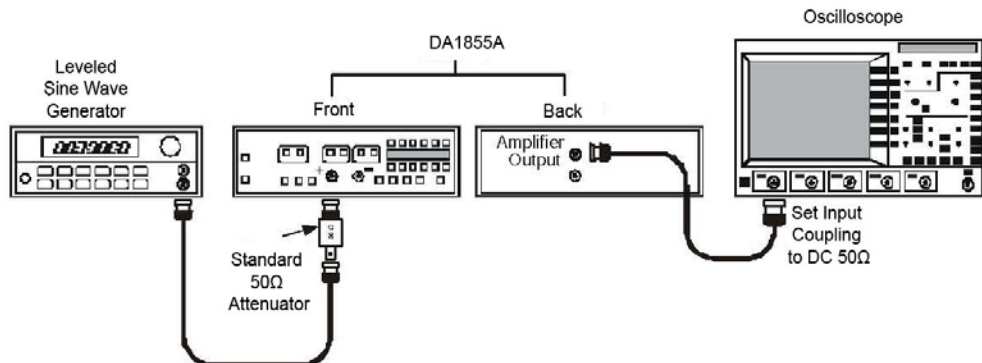

Figure 16, X1 Bandwidth Test Setup.
5. Insert a standard 50 Ω termination on the free end of the cable and connect the termination to the +INPUT of the DA1855A. Refer to Figure 16.